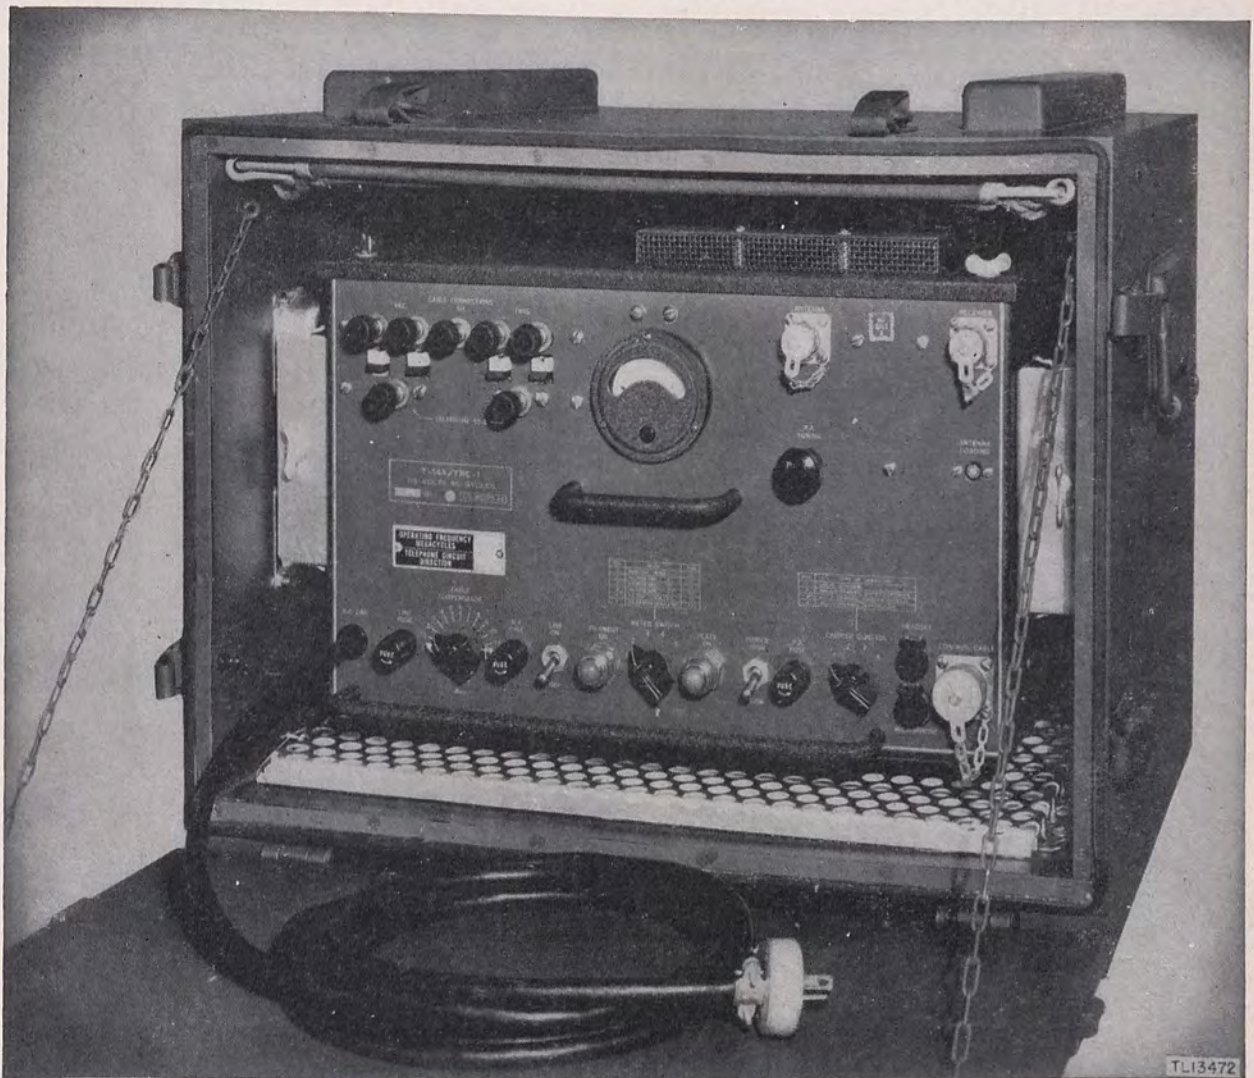
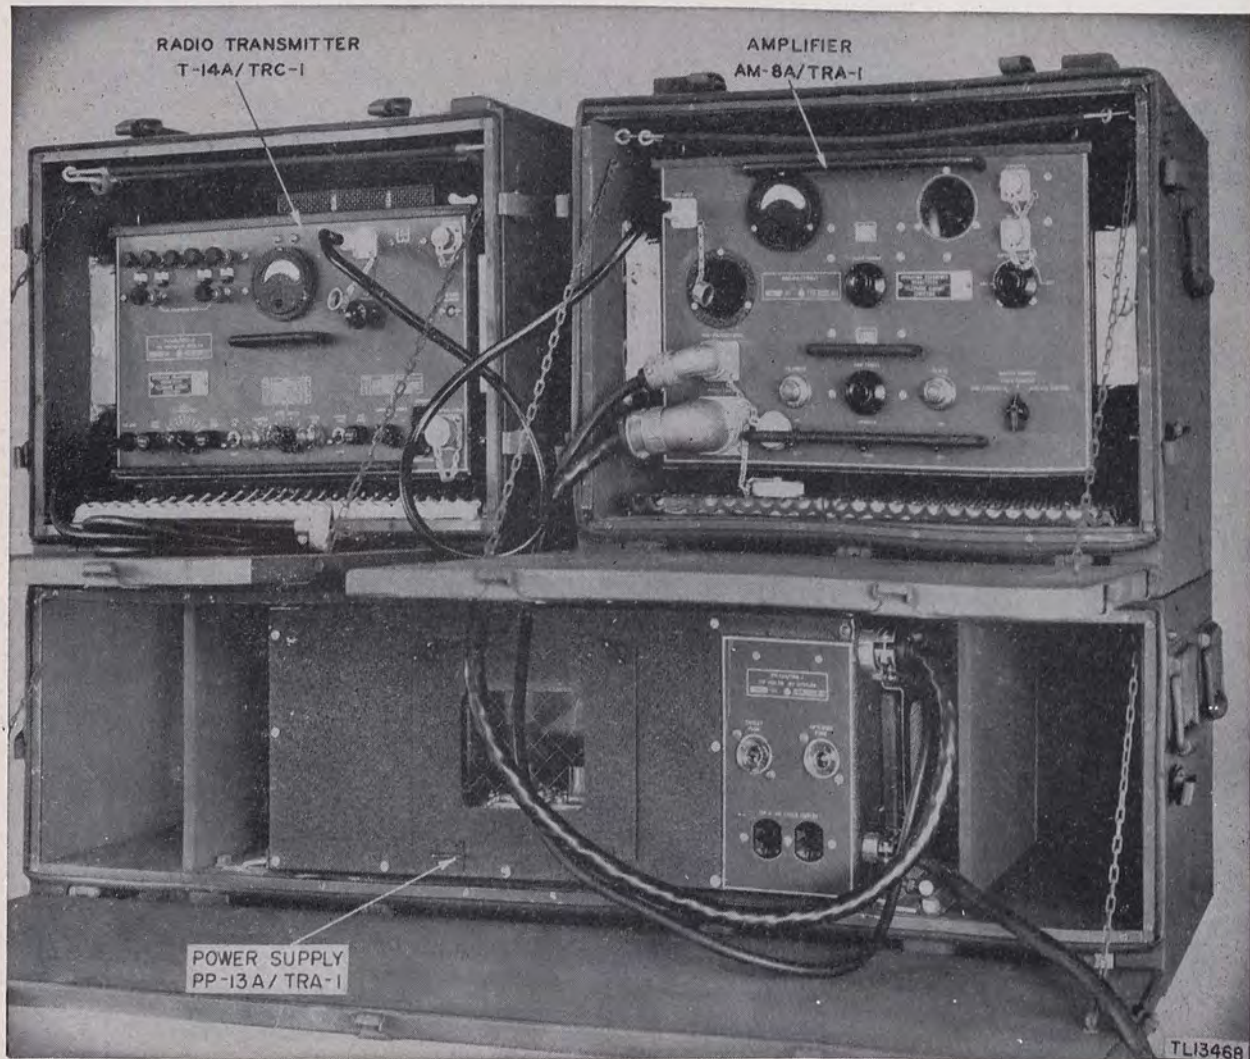

Figure 1. Radio Transmitter T-14A/TRC-1.
Figure 2. Radio Transmitter T-14A/, with associated power amplifying equipment.
b. Radio Transmitter T-14(\*) / (fig. 1) is a basic component of Radio Set AN(\*)/TRC-1, Radio Terminal Set AN(\*)/TRC-3, and Radio Relay Set AN(\*)/TRC-4. It is an 11-tube, 50-watt, frequency-modulated transmitter designed for operation at frequencies of 70 to 99.9 megacycles (mc). The transmitter oscillator is crystal-controlled. The phase shift method is utilized to obtain frequency deviation. Power may be supplied from commercial power lines, when available, or by means of gasoline-engine-driven alternator, Power Unit PE-75-(\*). The transmitter nominal power output of 50 watts may be increased to 250 watts by using an auxiliary power amplifier which has been designed for this purpose and which is a basic component of Radio Set AN(\*)/. The transmitter with its associated amplifier and power supply is illustrated in figure 2.